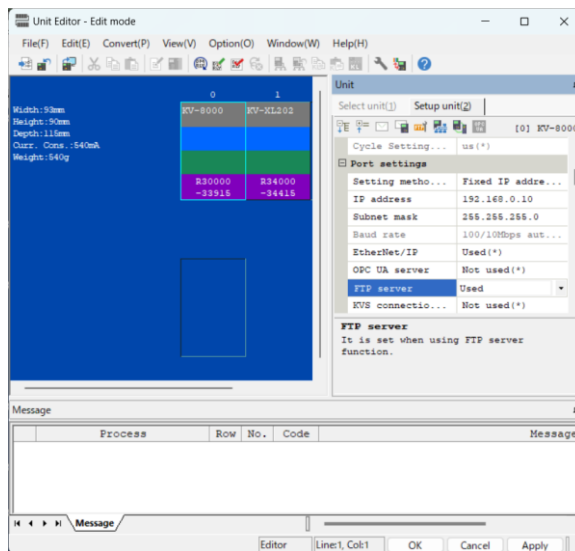

Fig 6 Configuration of KV-8000
- ① Click on [Tool] -> [Clear PLC].
- ② Clear PLC: Select a Clear All and Execute.
- ③ Project tree: Right click on [Unit configuration] -> Click on [Unit Editor].
- ④ Unit Editor: Click on [File] -> [Read Unit config. from PLC].
- ⑤ Unit Editor: When the “Unit settings are read in the initialization status.” Dialog box appears, select Yes.
- ⑥ Unit Editor: Select KV-8000 and Set [FTP server] to “Used”. (Fig 6)